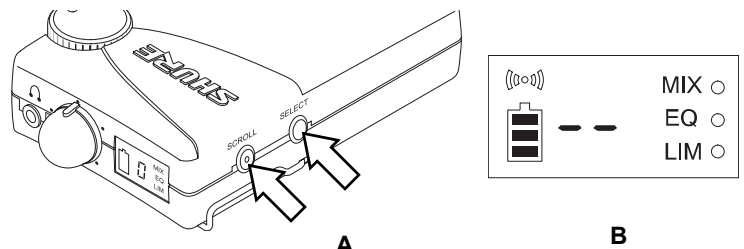

FIGURE 2
2. Hold down the SCROLL and SELECT buttons simultaneously for five seconds (see Figure 2 [A]). The display will show two dashed lines to signify that lock out is engaged (see Figure 2 [B]).